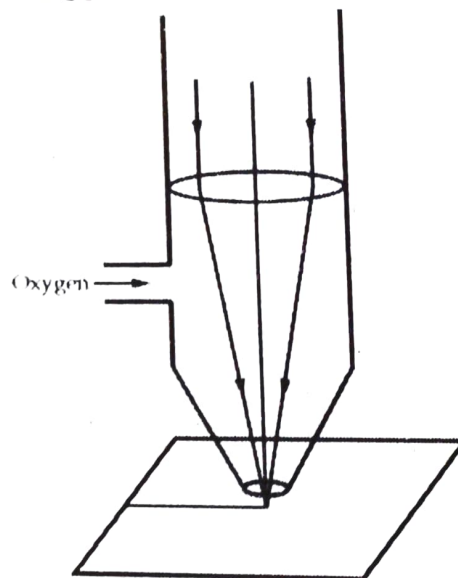

Fig. Q.28.2
- ii) **Cutting** : Cutting of metal sheets is achieved using high power lasers like NdYAG or CO₂ lasers. The laser is focussed on the metal sheet and a jet of oxygen is blown on the spot. A significant part of the energy required for cutting is supplied by burning of the metal in oxygen. The oxygen jet also blows away the vapourized metal and also cools the adjacent edges. An arrangement of gas laser cutting is shown in Fig. Q.28.2 Higher cutting speeds have been achieved with lasers compared to other conventional methods. Laser cutting produces higher quality of the cut edges.